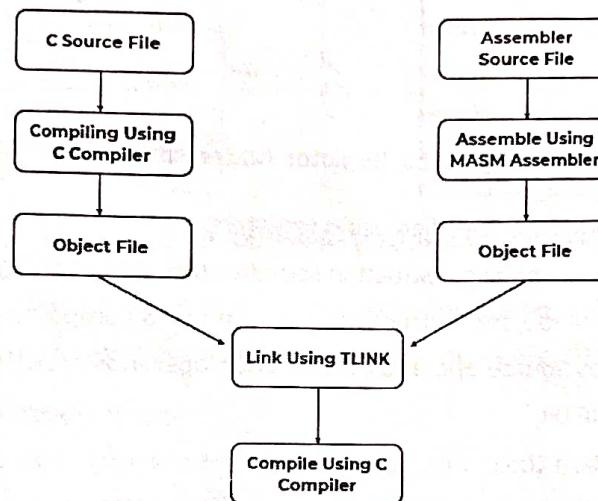

Figure 2.1: Compile, Assemble & Link processes in Mixed Language Programming.
7. Figure 2.1 shows Compile, Assemble & Link processes using C Compiler, MASM Assembler & TLINK.